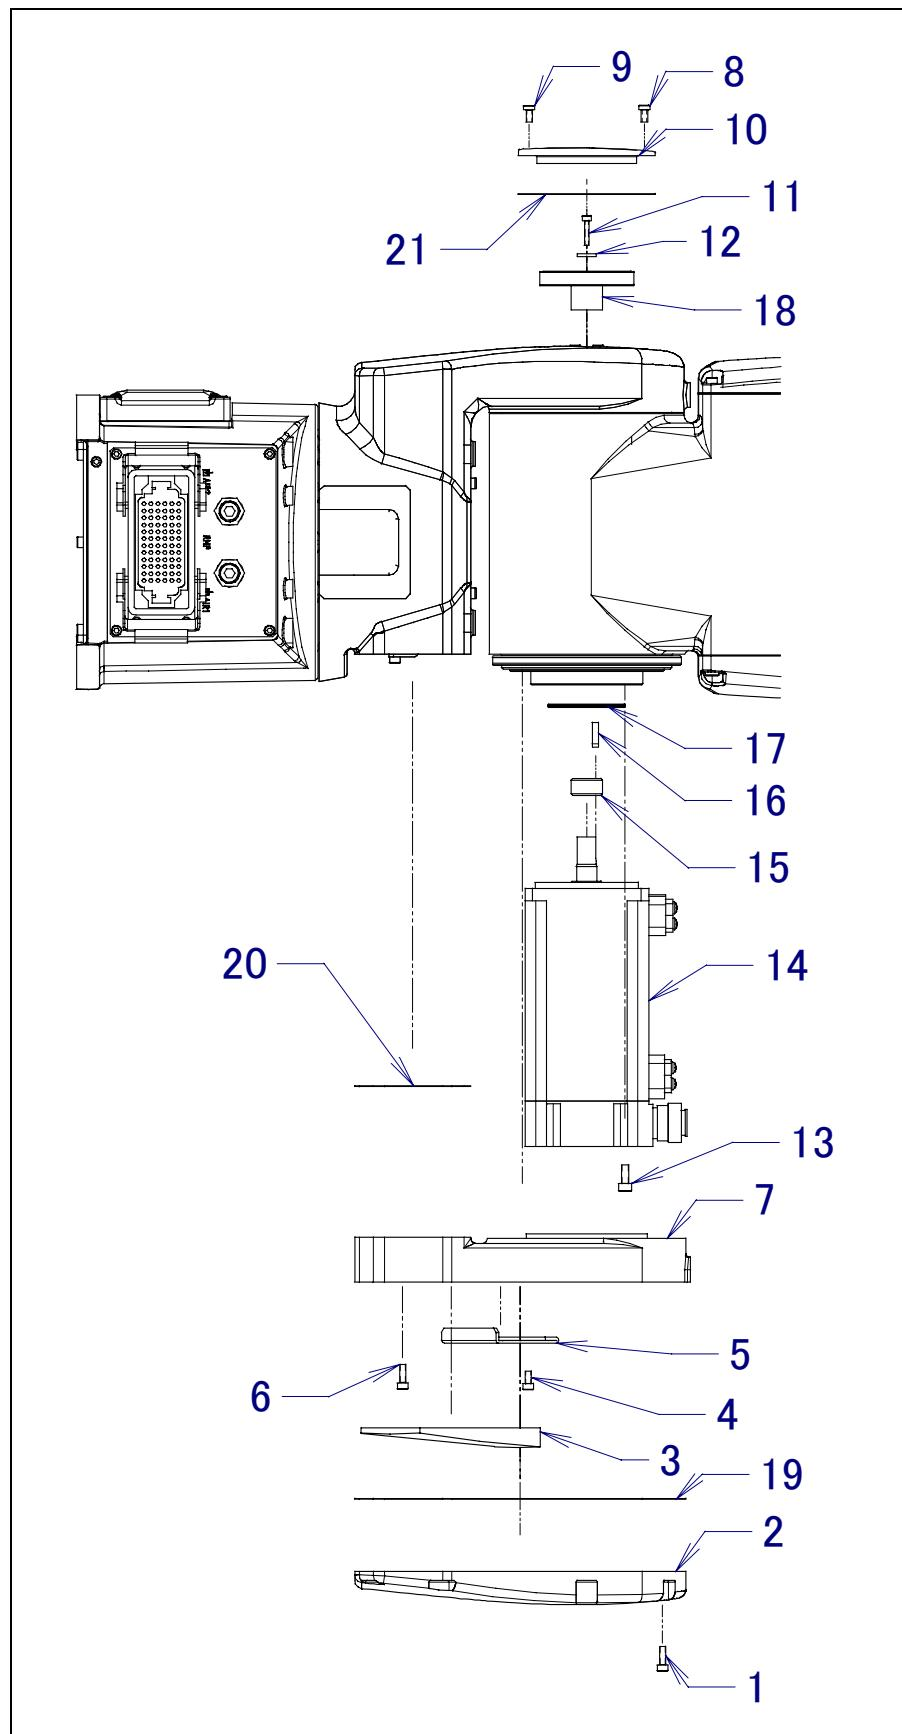

Fig. 4.4(a) Replacing J2-axis motor
- 10 Remove cable K102 and K103 from motor (14).
- 11 Assemble it in the opposite procedure after exchanging Motor, O-ring, packing and shaft (15) for the new article. In this time, pay attention to the following.
- Spread Loctite 638 referring to Fig.4.4(b) when you apply shaft(15).
- Be sure to attach wave generator(18) after attaching motor(14). Spread grease inside of reducer.
- Pay attention the phase when you apply the cover S (10) referring to Fig.4.4(c).